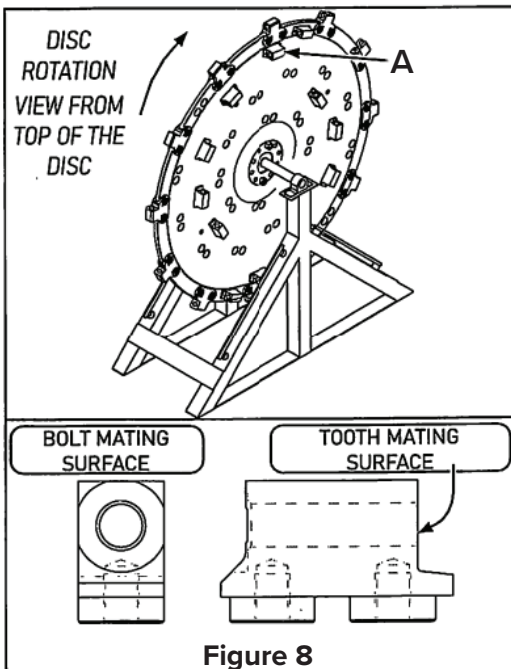

Figure 8
17. Install the 12 top tooth holders on the disc with the tooth mating surface toward the disc rotation direction [Figure 8, Item A].